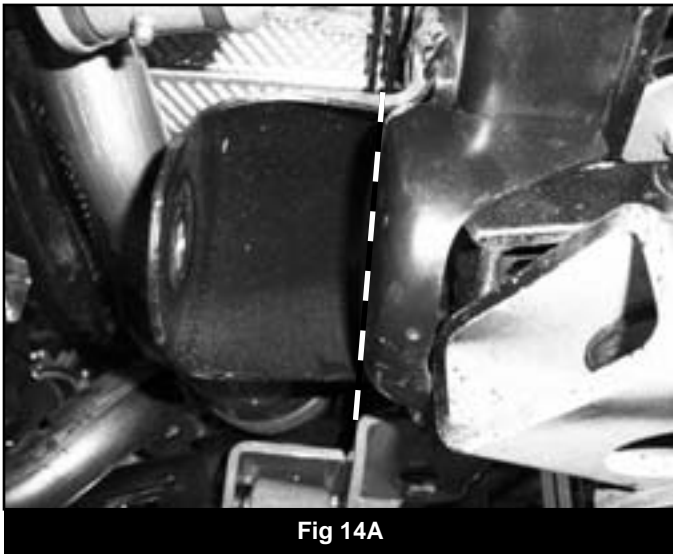

Fig 14A
29. Locate the new front LCAs (01981). Lightly grease and install the provided bushings (3523RB) and sleeves (61) in the control arm ends. The frame end of the control arms come preassembled with a flex joint. Install a 90° grease fitting (60107) in the flex joint end of the control arm and a straight grease fitting (516) in the bushing (axle) end.
32. The inside portion of the factory LCA mount must be cut off to provide clearance for the new arms under suspension compression. Using a reciprocating saw, cut the inside of the pocket off flush with the outer pocket mounting surface (Fig 14A/B). The outer portion of the OE mount can stay intact. Deburr and paint any exposed metal to prevent corrosion.